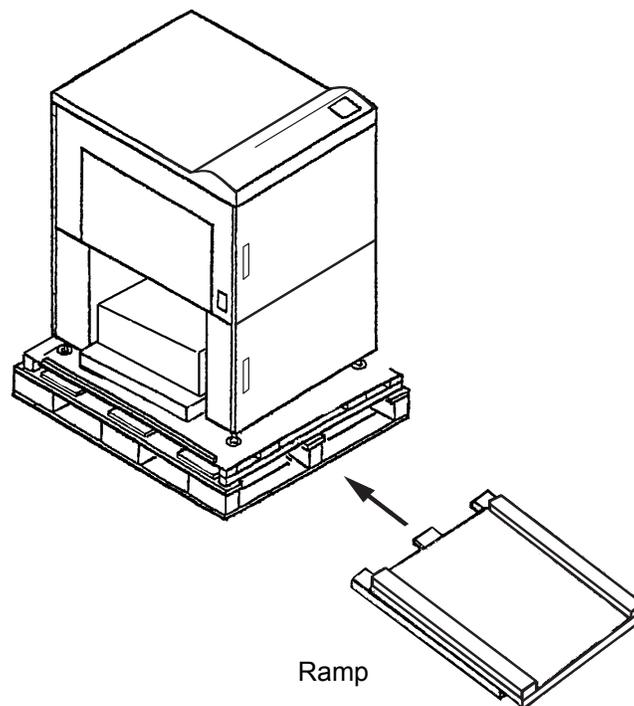

Figure 2-3
3. Insert the ramp into the pallet on the front of the printer as shown in Figure 2-3.